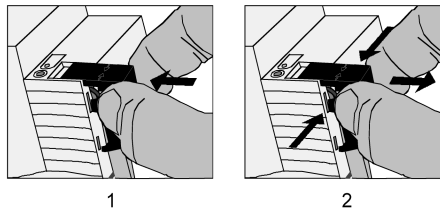

Figure 4: Installing / removing the protective cap for the bus connection
- To install the cap: slide the cap over the bus connecting terminal until you feel it engage (Figure 4).